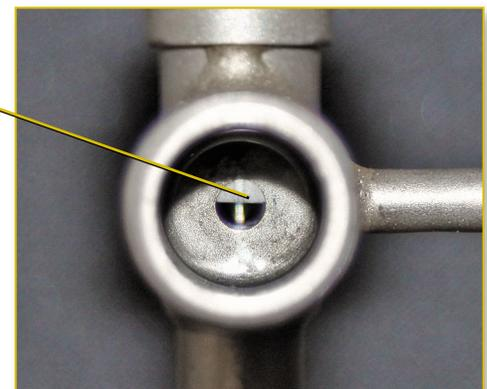

Figure 16 Heater Tube Position
5. Position the heater tube inside the housing by looking through the fuel discharge hole (DP filter housing) and centering the heater tube shoulder in the hole so that the shoulder is lined up with the center of the bypass line [Figure 16].